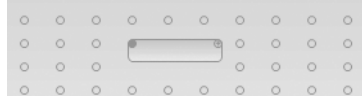

Figure E-4. A key that is 3x1 in size.
**Key Size** Use the grid to determine the size of a key. In Fig E-4, the key is 3x1 – 3 columns by 1 row.